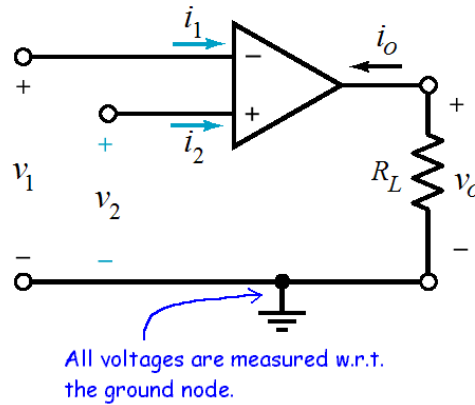

Figure 4. Op-amp comparator circuit showing input voltages, input currents, output voltage and output current.
The second inequality in Eq. (2) is significant when the op-amp is connected to a circuit which draws a non-zero current i_o . Figure 4 shows an op-amp loaded by a resistor R_L . According to Ohms Law, $v_o = -R_L i_o$. Therefore, taking into account the restriction $|i_o| < i_{sat}$ and using Eq. (1), we may write: $|v_o| = A|v_1 - v_2| < R_L i_{sat}$, or
the LM741 op-amp output, v_o , will saturate at a voltage close to $-V_s$ (if $v_1 > v_2$) or a voltage close to $+V_s$ (if $v_1 < v_2$). In fact, this last observation forms the basis for an op-amp *comparator* circuit (shown in Figure 4); the comparator compares two voltages and produces a signal that indicates which voltage is greater. The following equation analytically captures the input/output relationship of an op-amp comparator: